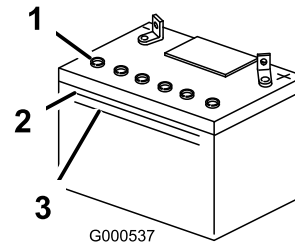

Figure 39
- Remove the vent caps from the battery (Figure 39).
- Slowly pour distilled water into each battery cell until the electrolyte level is up to the Upper line (Figure 39) on the battery case.
- Add distilled water, if necessary, until the electrolyte level is up to the Upper line (Figure 39) on the battery case.
- Look at the side of the battery. The electrolyte must be up to the **upper** line (Figure 39). Do not allow the electrolyte to fall below the Lower line (Figure 39).